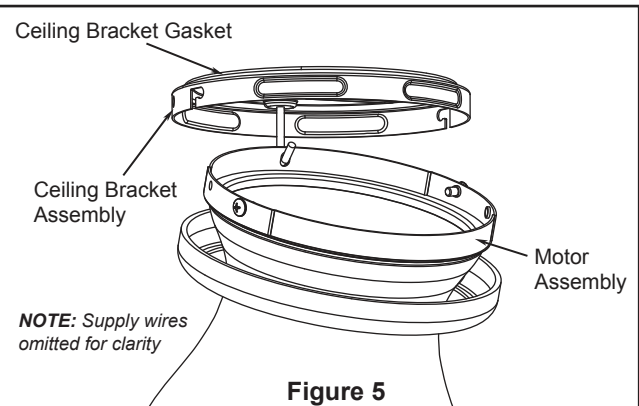

Figure 5
4. Hang the Motor Assembly as shown. (Figure 5)